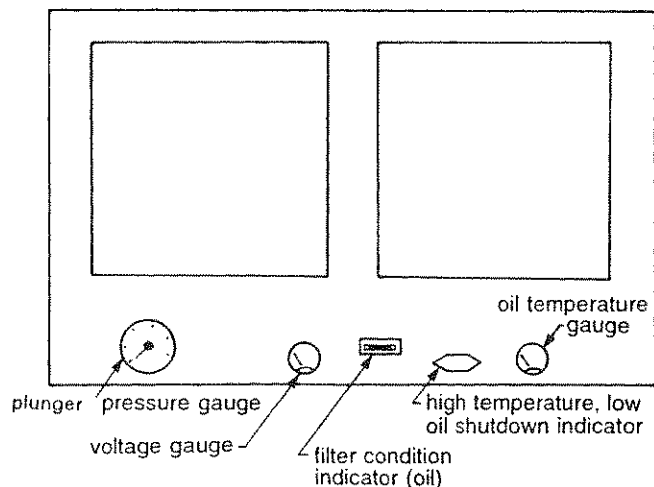

Fig. 52
6. Read the main system pressure on the right side of the front gauge panel of the baler as illustrated in **Fig. 52**. It should read approximately 6,000 psi for balers with serial numbers **168** and below. For baler numbers **169** and above, main system pressure should read 6,500 psi.